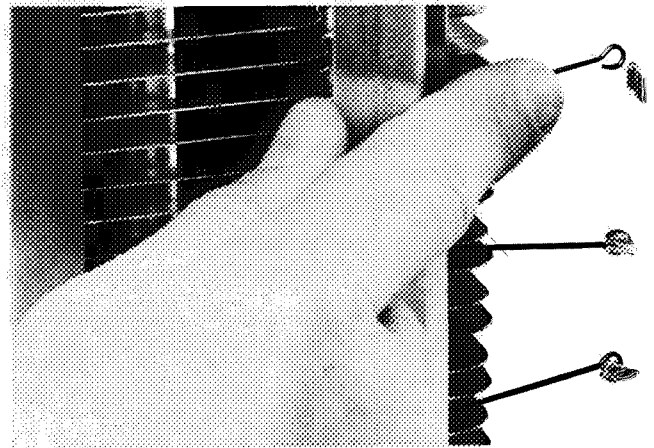

Fig. 16 — Replacing Ionizer Wire
Replacing Ionizer Wires, Fig. 16 — The following procedure is recommended for replacing broken ionizer wires:
- Depress top ionizer wire spring with finger as in Fig. 16.